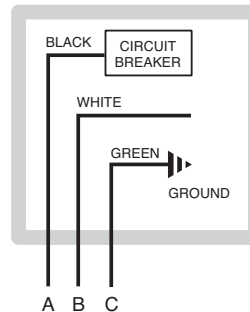

Fig. 29: Wiring Connections
**WARNING:** Using a multi-meter, check the following voltages at the terminal block inside the unit. Make sure proper polarity is followed and house ground is proven. (See Fig. 29.)